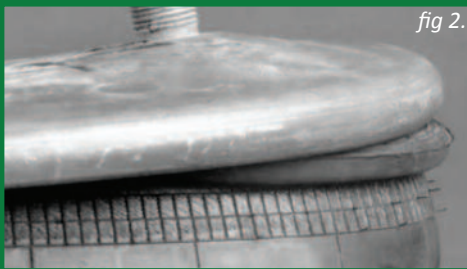

fig 2.
- Bead plate convex, especially around blind nuts or studs (fig 2.).